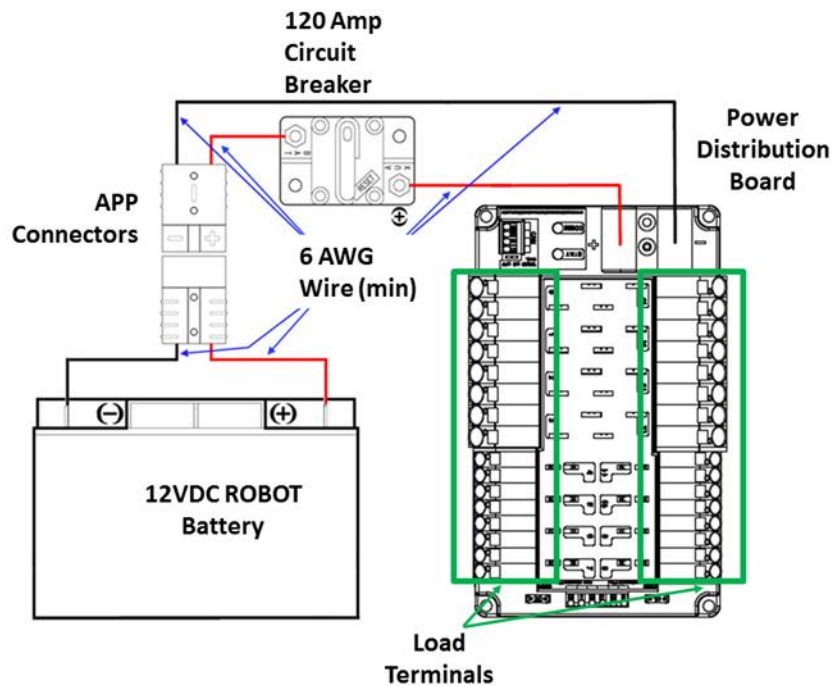

Figure 10-9 Electrical connection diagram
R47. The one (1) ROBOT battery, a single pair of Anderson Power Products (or APP) 2-pole SB type connectors, the one (1) main 120-amp (120A) surface mount circuit breaker (Cooper Bussman P/N: CB185-120, CB185F-120, CB285-120), and the one (1) CTR Electronics Power Distribution Panel (PDP, P/N: am-2856, 217-4244, 14-806880) shall be connected with 6 AWG (7 SWG or 16 mm²) copper wire or larger, with no additional devices or modifications, as shown in Figure 10-9.
R48. All circuits, with the exceptions of those listed in R53 and R55, must connect to, and have power sourced solely by, a single protected 12VDC WAGO connector pair (i.e. the Load Terminals, as shown in Figure 10-9) of the one (1) CTR Electronics Power Distribution Panel, not the M6 cap screws.